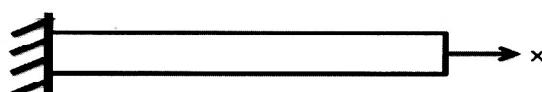

Figure 6
- Q7)** For bar element shown in figure 6 with length $L = 2.5 \text{ m}$, $E = 210 \text{ GPa}$, $\rho = 7850 \text{ kg/m}^3$. Determine the first two natural frequencies by using lumped mass & consistence mass matrix. Consider two elements. [16]